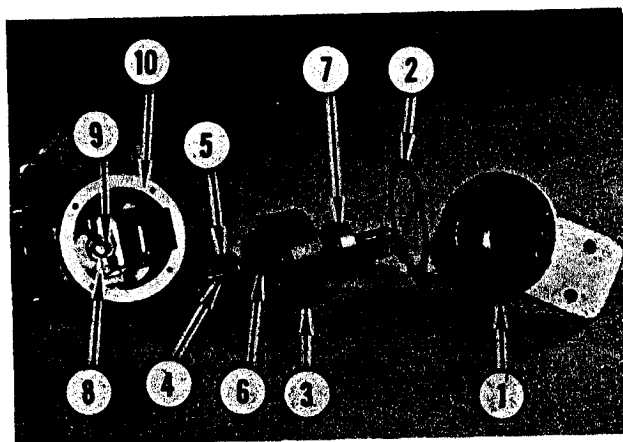

FIGURE 35. TAILSHAFT GOVERNOR
Refer to Figure 35. Follow the numerical sequence as shown for disassembly. Remove four capscrews and lockwashers retaining governor flange (1) to governor housing. Remove flange and gasket (2). Lift spider assembly (3) from housing. Remove snap ring (4) from spider shaft. Remove thrust bearing (5). Remove sleeve (6). Remove bearing (7). Remove two slotted capscrews retaining yoke (8) to housing and remove yoke. Remove bushing (9) from bore in end of housing (10).